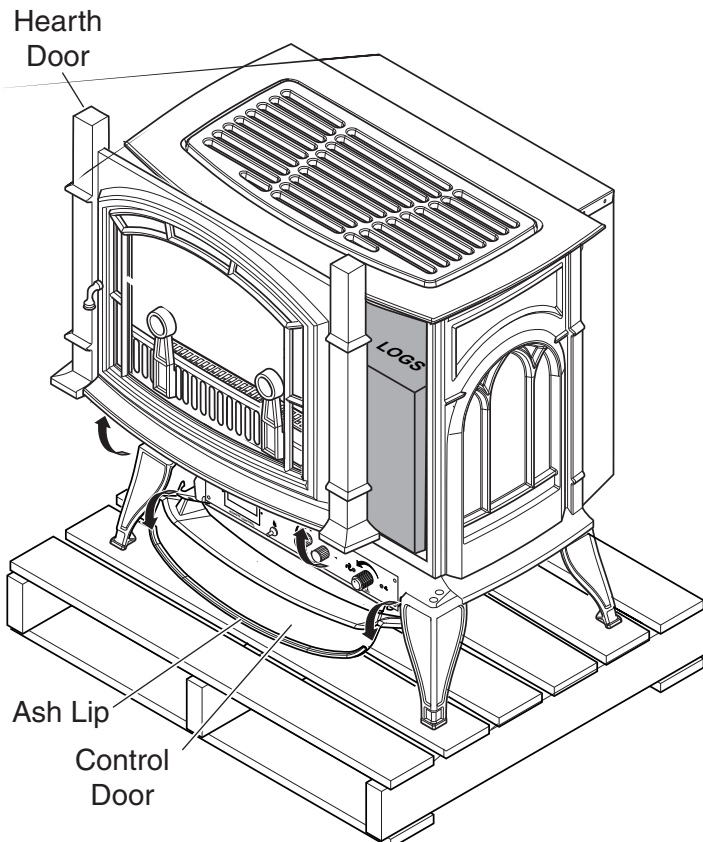

Figure 8 - Opening Control Door and Removing Hearth Door
2. Open plastic bag and slide to bottom of unit. *See Figure 8.*